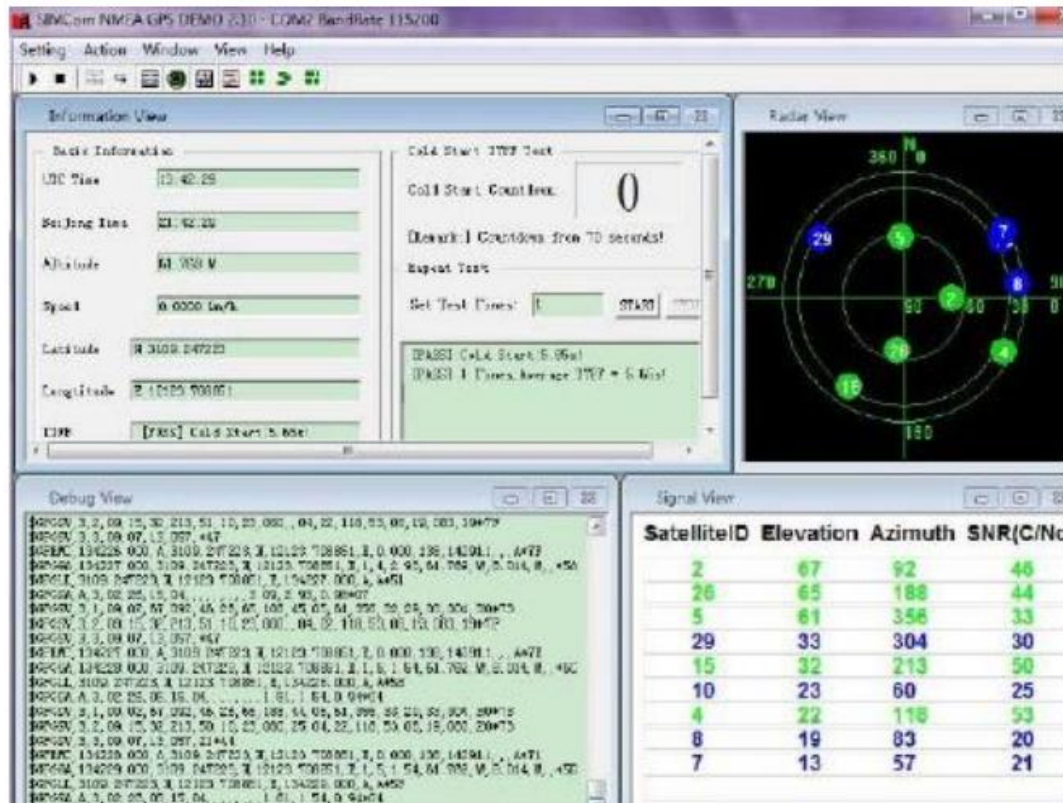

Figure 8: Checking GPS information
- 3) Select Action->run. Then, you can see the relative GPS information, as Figure 8 shows.